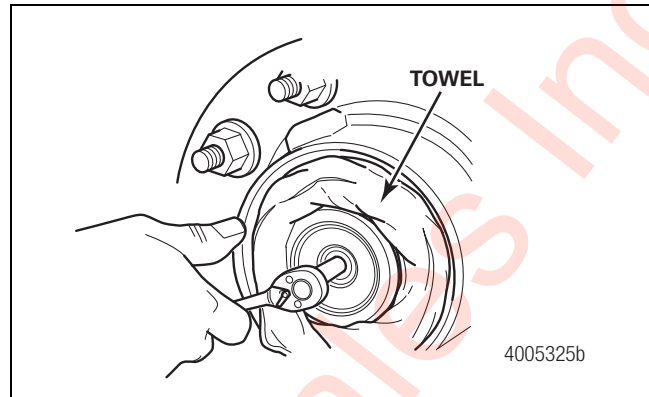

Figure 2.41
2. Use a 5/8-inch socket to tighten the stator approximately 2-1/2 additional turns, or 23-28 lb-ft (31.18-37.96 N•m), to obtain an airtight seal. Figure 2.41.